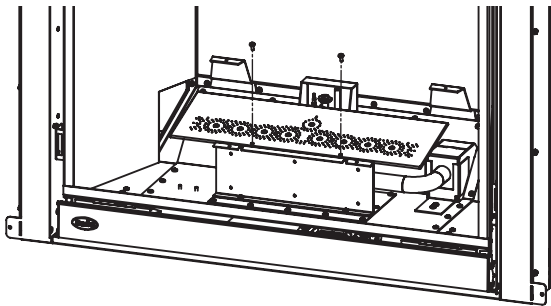

Figure 19. Removing Burner
**Step 3:** Unscrew the burner pan using a T20 screwdriver then rotate it clockwise and pull it out of the venturi box (Figure 19).